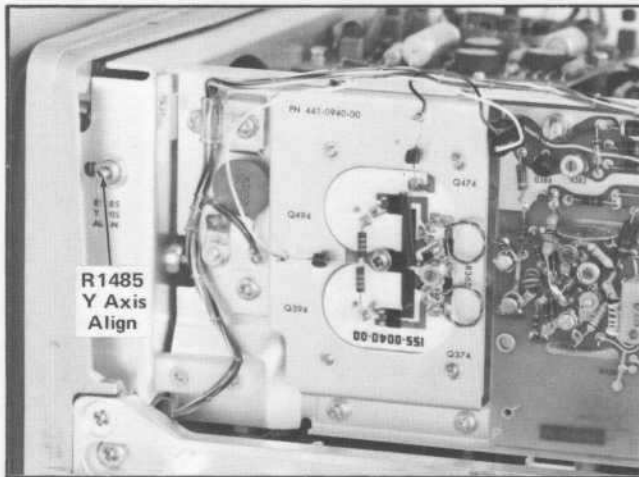

Fig. 5-6. Location of Y AXIS Alignment adjustment (left side).
- ADJUST—Y Axis Align adjustment, R1485 (see Fig. 5-6) to align the markers with the center vertical line.